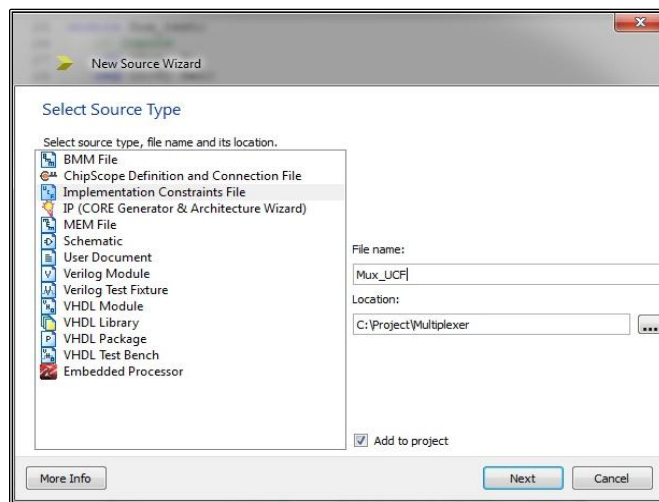

Fig 2.21: UCF creation
21. Select source type as **Implementation Constraints File** and enter the file name as “Mux_UCF” (Fig 2.21).